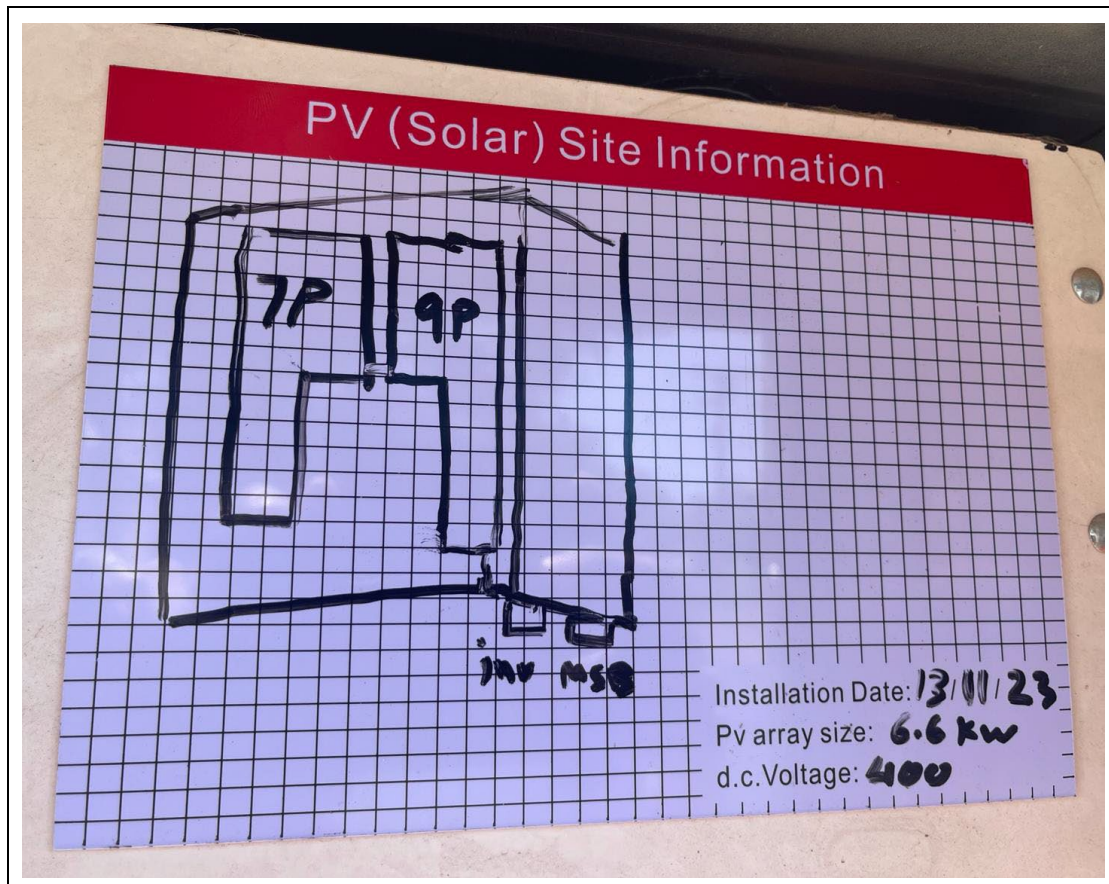

Figure 2: Non-compliant Site Information sign is missing key information for a PV d.c. system.
- a) **Non-compliance:** The extensive requirements of Clause 5.6.1.1 often result in installers inadvertently omitting one or more mandatory elements, leading to a defect being recorded on the inspection report. In Figure 2, the site information sign is incomplete, as it does not identify the DC cable path, fails to include the required warning that certain DC disconnection types may only be operated by suitably qualified personnel, and does not clearly identify the locations of DC disconnection points.